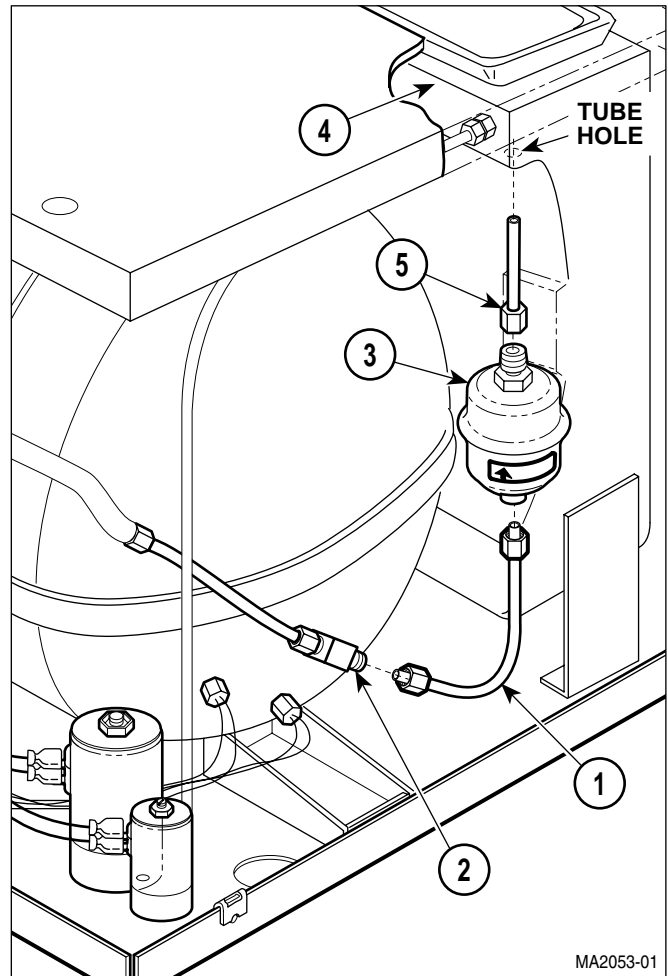

Figure 4-6. Bellows Assembly Removal / Installation
Figure 4-6 shows old-style bellows. The procedure for the new-style is the same.
- (1) Remove back panel (Refer to para 4.5).
- (2) Disconnect tube (1, Figure 4-6) from tee (2).
- (3) Pull downward on bellows assembly (3) to remove bellows assembly from condensing tank (4).
- (4) Loosen and remove tubes (1 and 5) from bellows assembly (3).